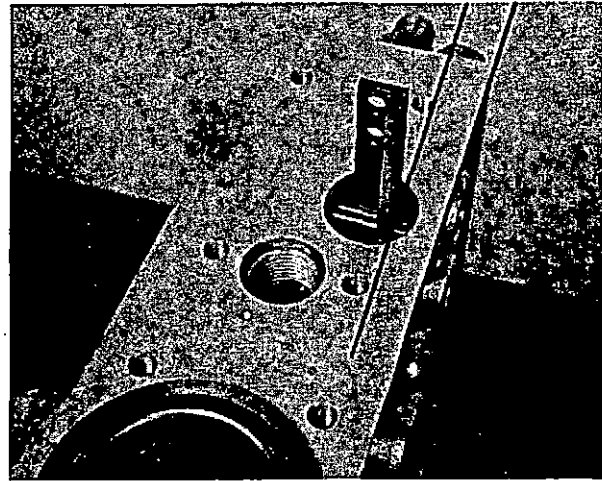

Fig. 35 Alignment of control rack
8. Enter the control rack, with its guide block and travel limiting pin, from the governor end (fig. 35), aligning the vertical guide with the edge of the pump housing as shown.